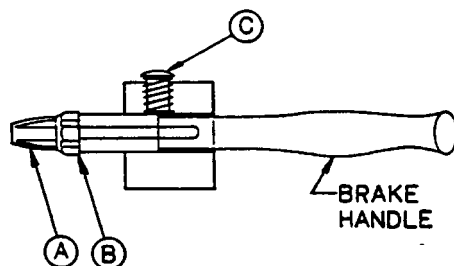

fig. 6
5. Once the machine is positioned over the stump, squeeze the brake handle to lock the wheel. The brake locks one wheel only and allows you to make a sweeping motion with the cutter head. You can hold the brake on with one hand or lock it in position by depressing the brake handle lock (item C, Figure 6). To unlock the brake, simply squeeze the lever and release.